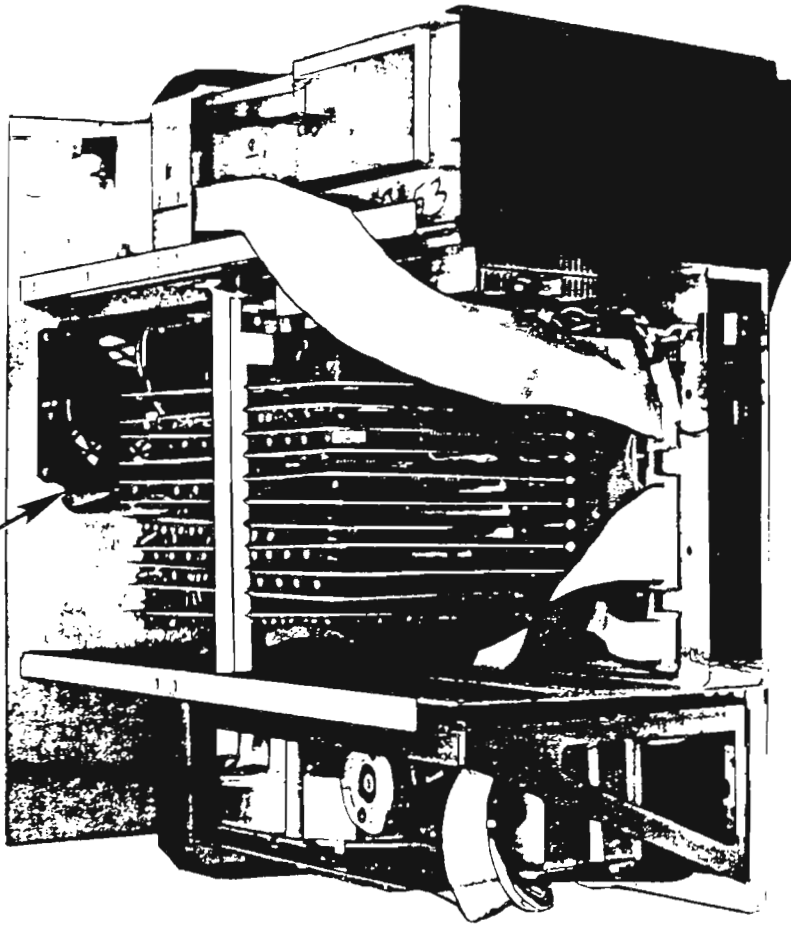

FIGURE 2 SVP CHASSIS / FRONT VIEW
- C. Refer to Figure 2. Remove the AC power plug from the plastic muffin fan at the rear of the chassis.
- H. Connect the AC power plug, shown in Figure 2, to the fan.